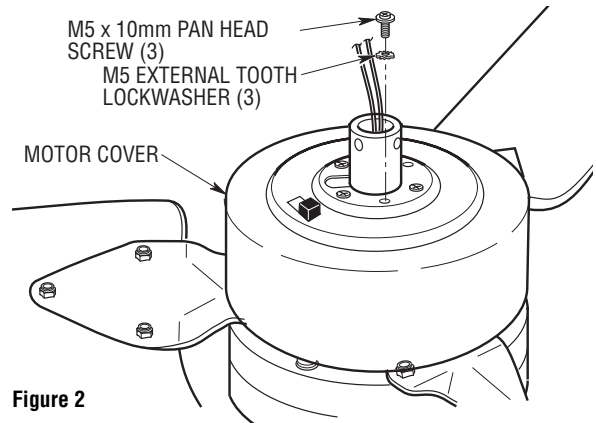

Figure 2
3. Route the two 80" motor leads through the center hole in the motor cover. Place the motor cover over the motor by aligning the reversing switch hole in the cover over the reversing switch as shown in Figure 2. Secure by installing three M5 x 10mm pan head screws and three M5 external tooth lockwashers (supplied) (Figure 2).